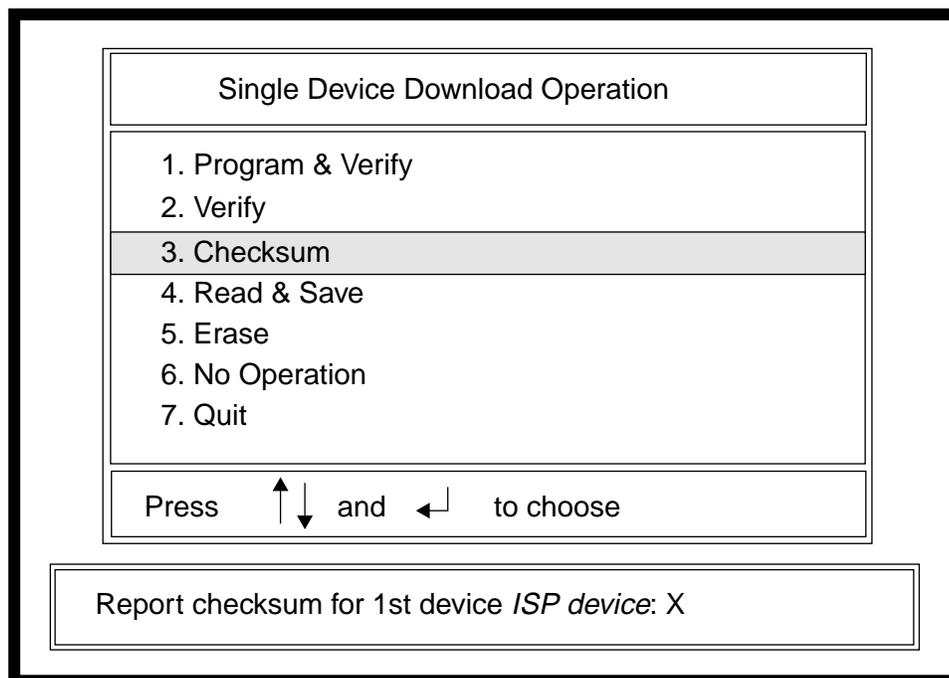

Figure 3-56. Verifying the Checksum
1. Type **3** or **C** from the Single Device Download Operation menu (Figure 3-56). The screen displays the following message: